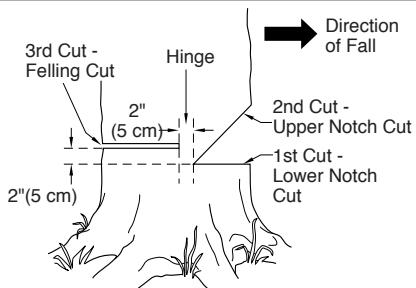

Figure 14 - Felling A Tree
A properly placed felling notch will determine direction tree will fall. Place felling notch on side of tree in direction you want tree to fall (see Figure 14). Follow directions below to create a felling notch.
1. Make lower notch cut as close to ground as possible. Hold saw so guide bar is horizontal. Cut $1/3$ the diameter of tree trunk (see Figure 14). **Note:** Always make this horizontal lower notch cut first. If you make this cut second, tree can pinch chain or guide bar.
Do not cut all the way through tree. Leave about two inches of tree diameter uncut directly behind felling notch (see Figure 14). This uncut portion acts as a hinge. The hinge helps keep tree from twisting and falling in wrong direction.
1. Make felling cut two inches higher than lower notch cut and on opposite side of tree (see Figure 14). Keep felling cut parallel to lower notch cut.